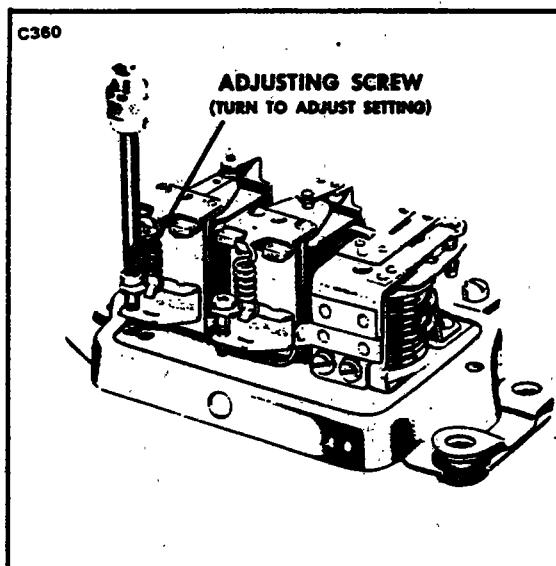

Figure 11-9. Adjusting Voltage Regulator Setting
- (h) To adjust voltage setting, turn adjusting screw. (Refer to Figure 11-9.) Turn clockwise to increase setting and counterclockwise to decrease setting.
- (e) Adjust in same manner as described for voltage regulator. (Refer to Figure 11-9.)
- (e) Adjust in same manner as described for the voltage regulator. (Refer to Figure 11-9.)